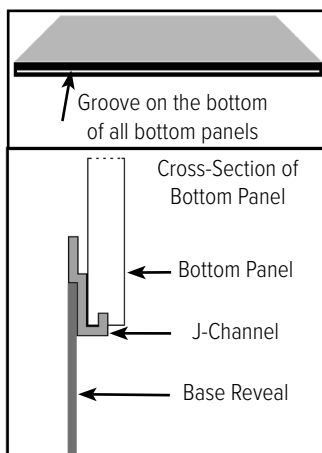

Figure 3.2.1
3.2.1 Set Bottom panel groove on the J-Channel as shown in Figure 3.2.1.